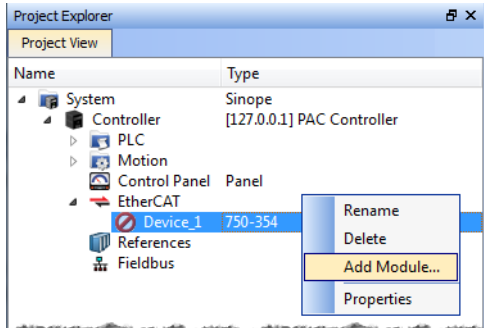

Figure 4-39: Right-click menu - **Add Module...** selected
1. Right-click a MDP EtherCAT device and select **Add Module...** from the menu. (Figure 4-39)